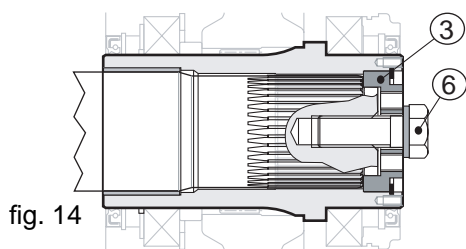

fig. 14
unscrew the threaded rod nut (pos. 4) and take it out of its seat. Replace the rod (pos. 4) with screw (pos. 6), torquing it down fully to the torque value shown in the "torque settings" table in section 9.1, using an intermediate threadlocker. Piv Posiplan recommends LOCTITE 601 (see Fig. 14).